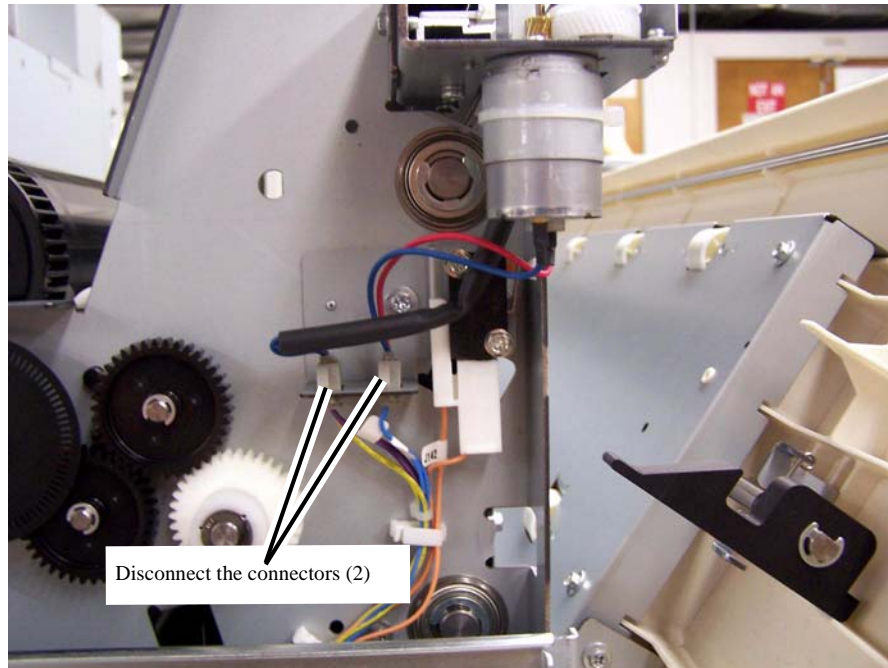

Figure 5 Disconnecting the Cutter Motor and Cutter R/H and L/H Switch connectors
- 7. Disconnect the connectors (Figure 5).